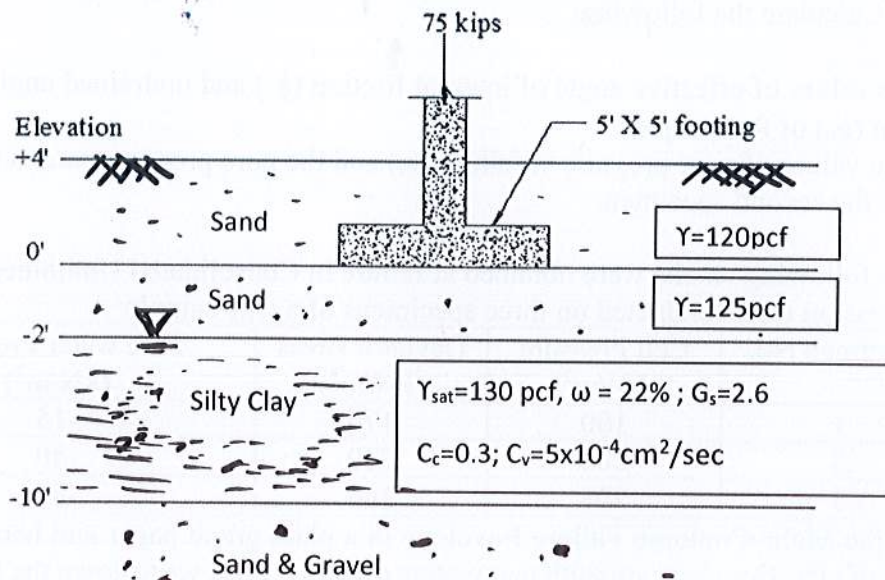

Fig. 5
b) A footing is placed on a sandy layer underlying a normally consolidated silty clay stratum, with properties shown in Fig. 5.